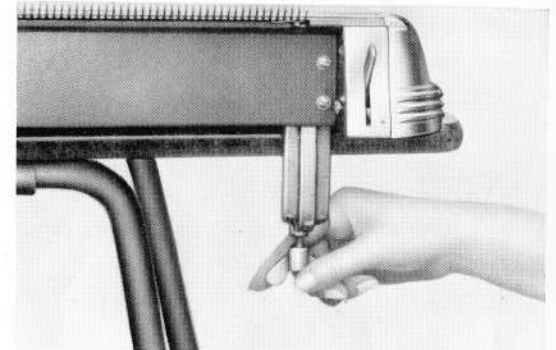

Fig 10
3. Fasten the machine to the table by table clamps. See Fig. 10.